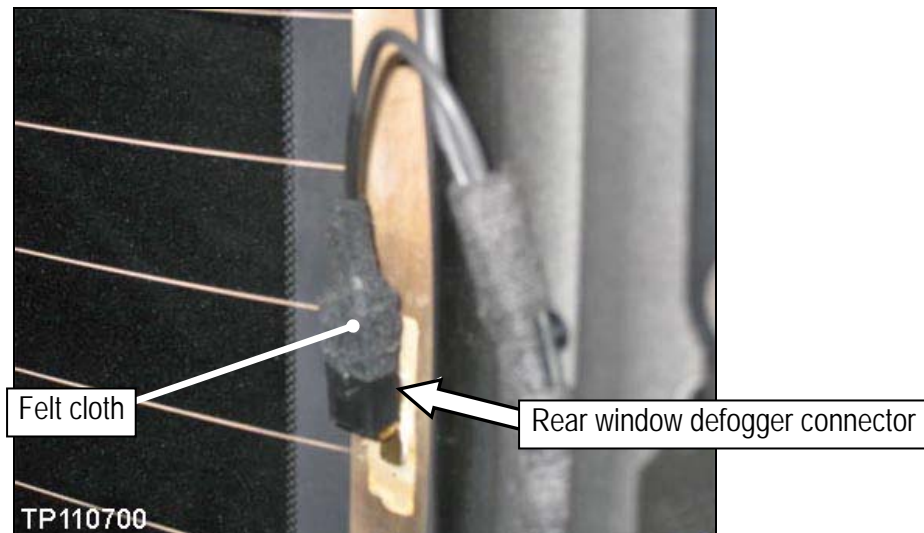

Figure 30f
31. Cut two 50 mm pieces from the tape role, and then wrap one piece on each of the two rear window defogger connectors (see Figure 30f).